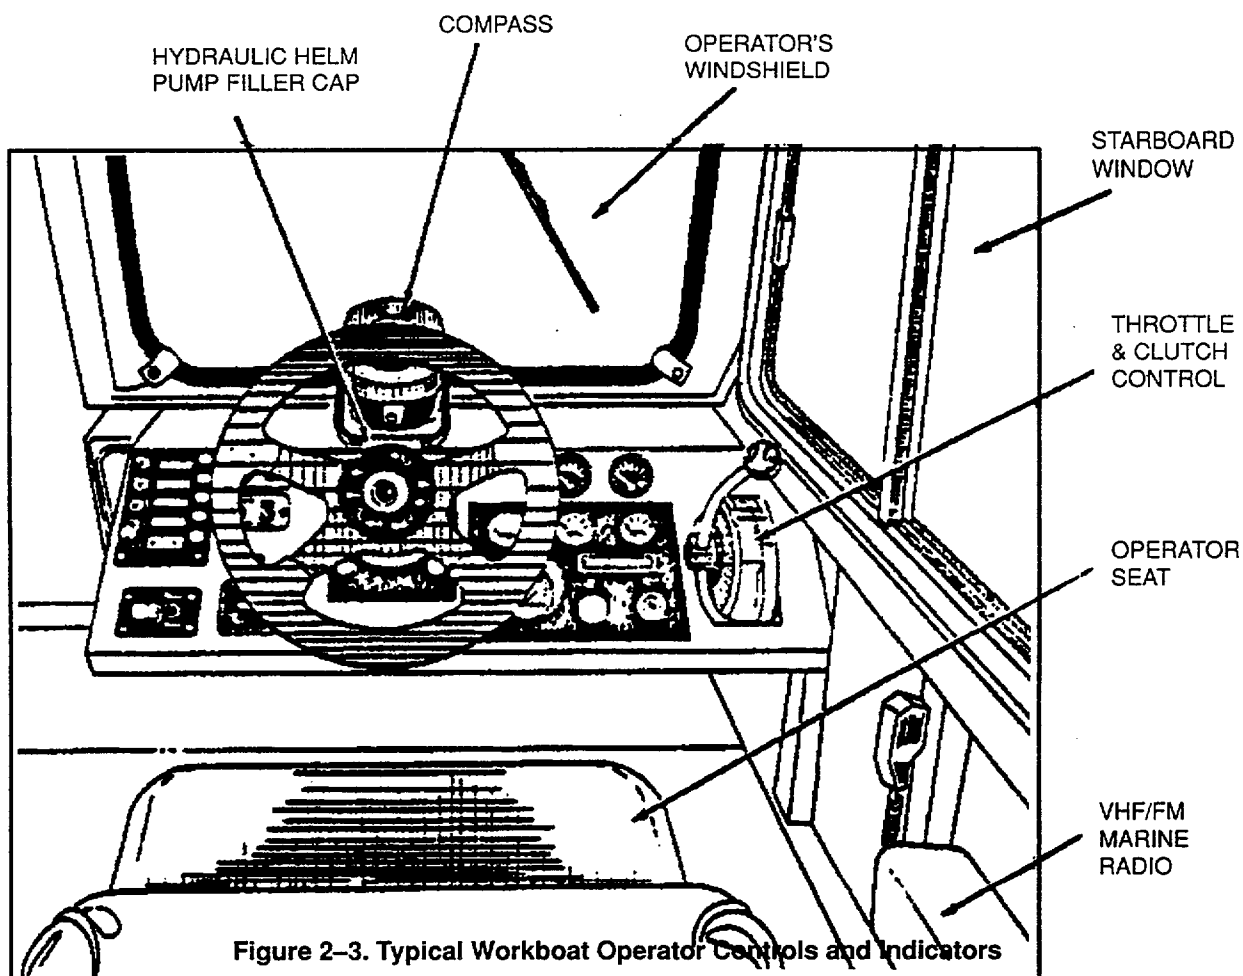

Figure 2-3. Typical Workboat Operator Controls and Indicators
**2-10 Controls and indicators.** Operator controls and indicators are at operator's station in workboat cabin on forward starboard side (Figure 2-3). Workboats have same controls and indicators, but the locations of dashboard-mounted items vary among different boats. The following sections provide general location and operating instructions for controls and indicators in the workboat cabin.
- e. Release engine throttle control from clutch control by placing throttle/clutch control lever in neutral position, and while holding in on button at bottom of lever, move lever forward (Figure 2-3).